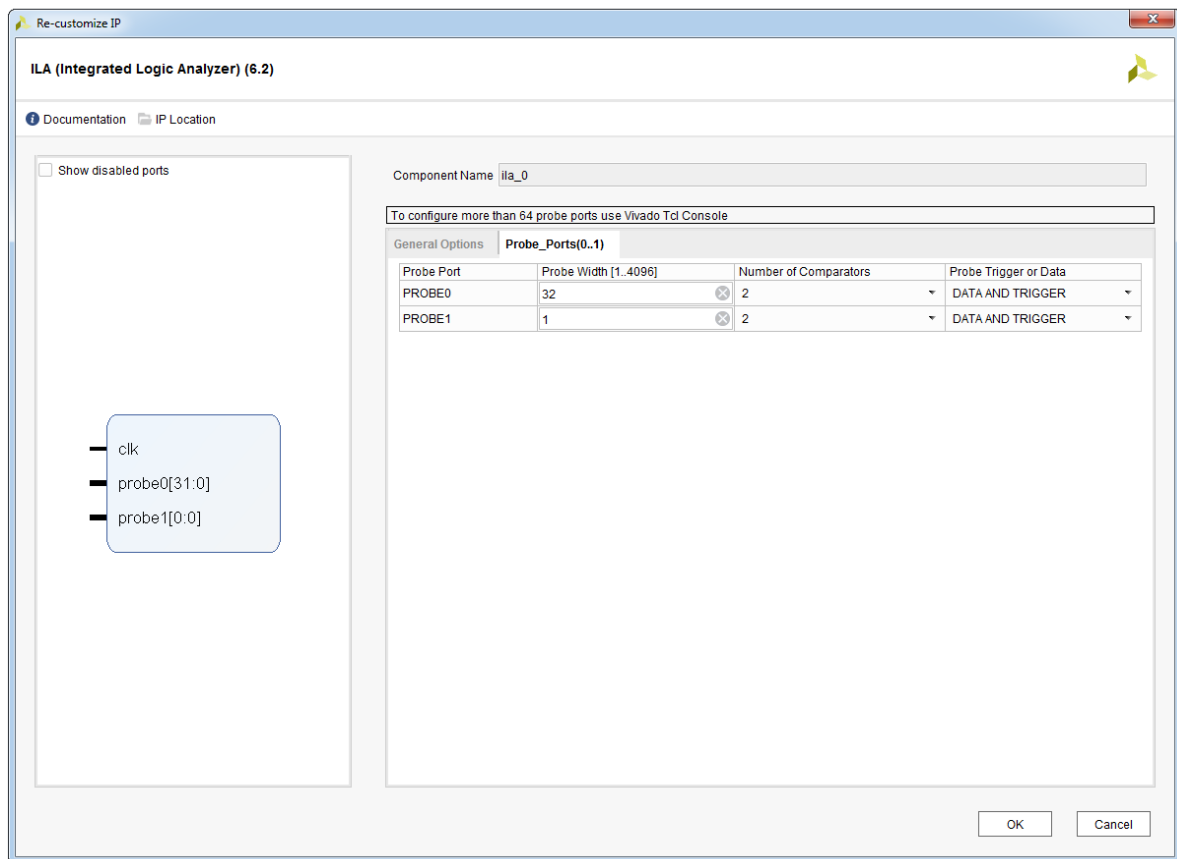

Figure 3.9: ILA (Integrated Logic Analyzer (6.2)) Re-customize IP dialog box - Probe Ports(0..7)
- set **32** bits as **Probe Width[1..4096]** value of **PROBE0** probe, as it is shown on the Figure 3.9, and
- in the **Constant** (*xconstant_1*) IP core, change the **Const Val** value to be **0**, see Figure 3.9.